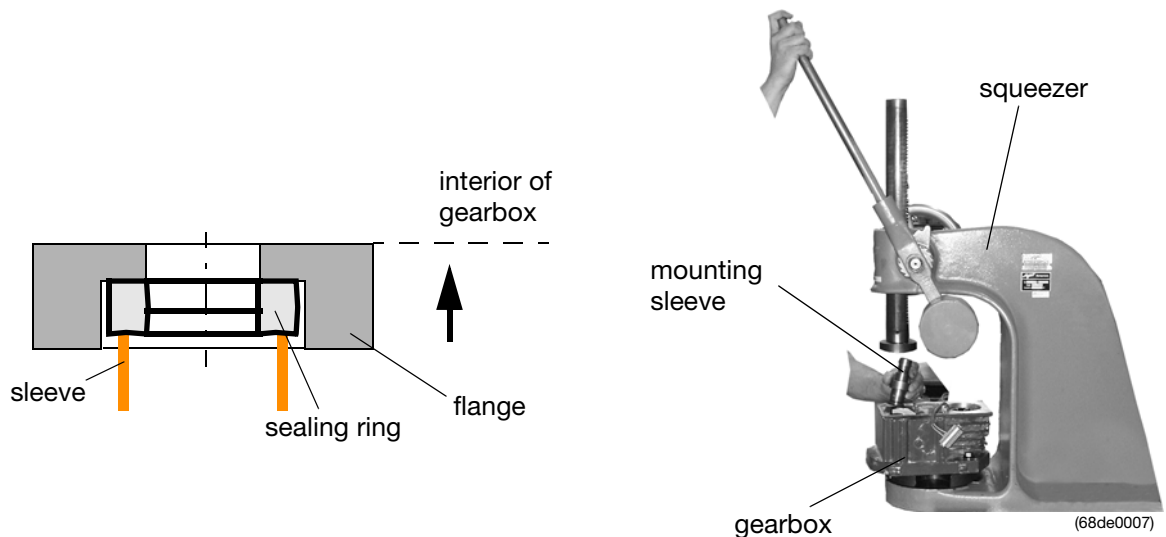

Fig. 8:
- grease the new sealing ring and press it in the flange as shown in fig. 8.
- make sure that the „open“ part of the sealing ring points towards the interior of the gearbox; see fig. 8.
- use appropriate squeezer or similar device to press the sealing ring uniformly into the flange (see right part of fig. 8)